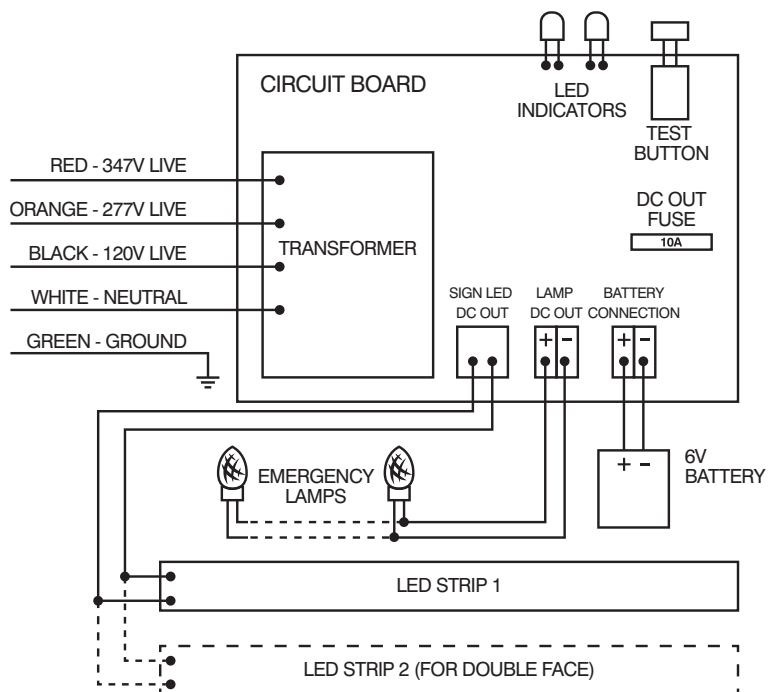

Figure 2
2. Loosen the screw at the bottom of power pack cover and take off the cover (figure 2).